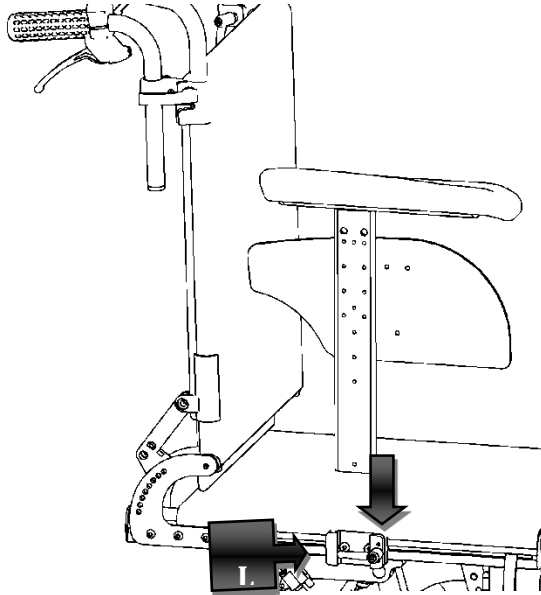
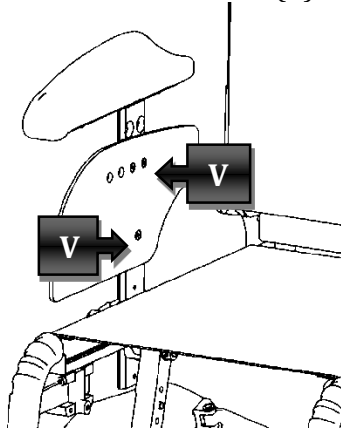

Figure 9
Figure 10
For the armrests you can make two different adjustments: height and depth. Let's begin to see how to assemble the armrest. It is sufficient to introduce it in the housing as shown in Figure 9 below and fix it by turning the lever (L).
For the adjustment of the armrests in height it is necessary to intervene on 3 screws shown in Figure 10 to adjust the side panel to the desired height and then act on the lever (L) indicated in Figure 9.